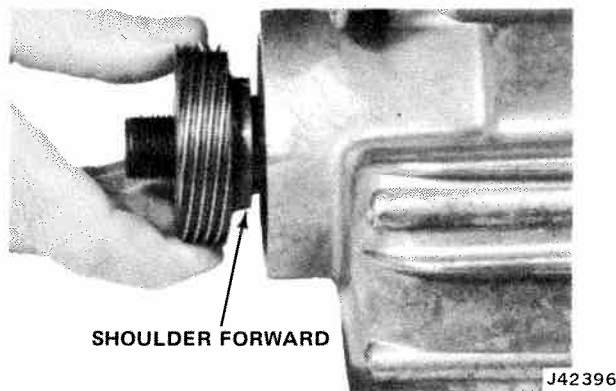

Fig. 8-45 Installing Speedometer Drive Gear
(11) Install speedometer gear on rear output shaft (fig. 8-45).